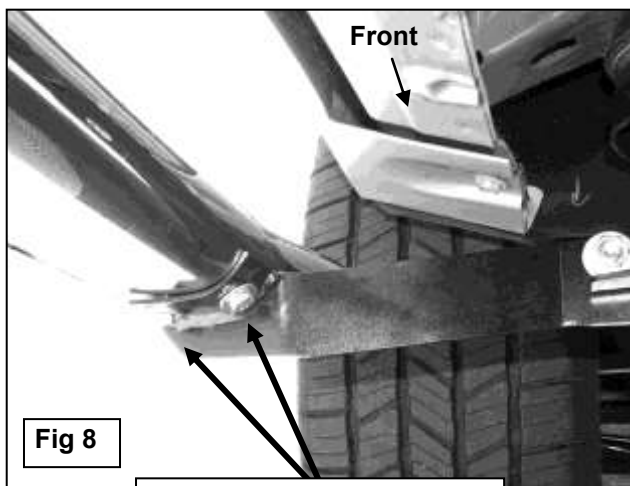

Fig 8
7. Carefully position the Driver Sidebar onto the Mounting Brackets. Attach the Sidebar to the Mounting Brackets with (6) 8mm x 25mm Hex Bolts, (6) 8mm Lock Washers and (6) 8mm Flat Washers, **(Figure 8)**. Do not tighten hardware at this time.